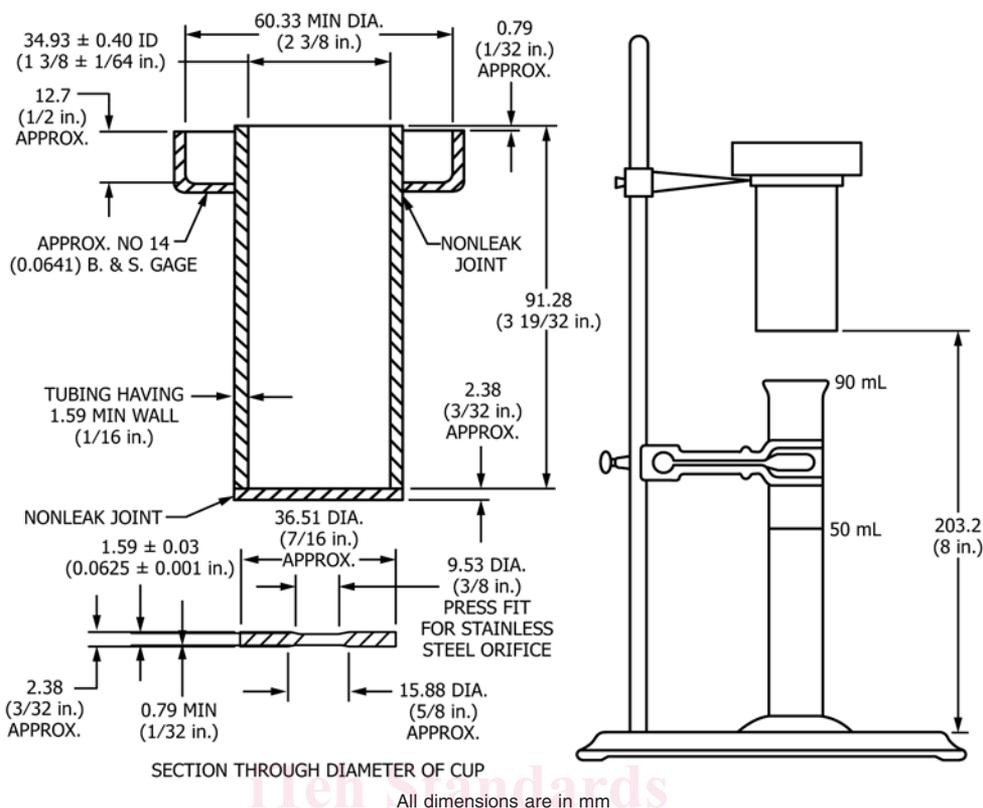

FIG. 1 Consistency Cups and Apparatus Assembly (Test Method A)
5.1 The apparatus (Fig. 1) consists of a set of four viscosity cups so designed as to deliver 50 mL of the sample in from 30 to 100 s at a temperature of 23 ± 0.5°C (73.4 ± 0.9°F).